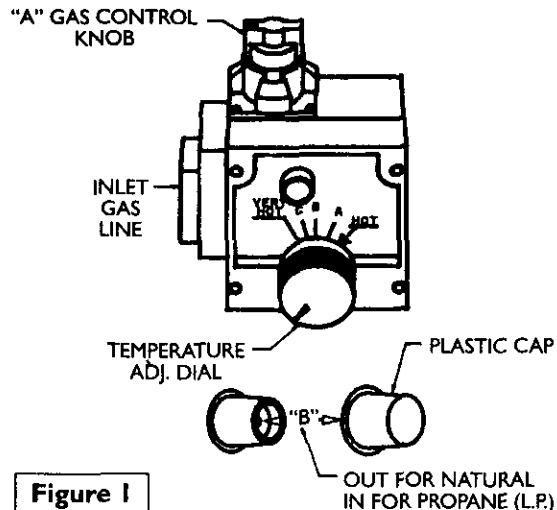

Figure 1
- Step 1. Turn gas control knob "A" to "PILOT". Depress and turn "OFF". (See Figure 1, page 17).
- Step 8. Place screwdriver in slot "B". (See Figure 1, page 17). Depress and turn counter-clockwise (↶) to stop. Control screw must be in "IN" position for propane (L.P.) gas and in "OUT" position for natural gas. STOP! Read label "For Your Safety" located on your water heater.
- Step 11. Wait five (5) minutes to clear out any gas. If you then smell gas, STOP! Follow "B" in the safety information on "For Your Safety" label. If you don't smell gas, go to the next step.
- Step 16. Make sure temperature adjustment dial is turned clockwise (↷) in its lowest position (See Figure 1, page 17).
To convert from Propane (L.P.) gas to Natural gas, follow the "Fuel" Conversion Instructions From the "Natural Gas to Propane (L.P.) Gas" section except in Step 5, use orifice "E", marked "NAT.". In Step 6 use pilot orifice "G", brass color and in Step 8 turn control screw "B" in Figure 1 clockwise (↻) to stop. Screw must be in "OUT" position for Natural gas.